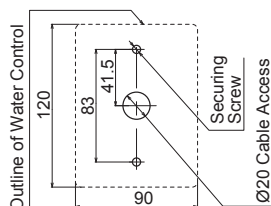
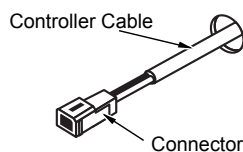

Fig.1
Fig.2
2. Drill three holes as shown (Fig. 1 and Fig. 2) for securing screws and one to provide cable access.
3. When running cable through the access hole ensure the connector and the end of the cable is located nearest to the controller (Fig. 2).